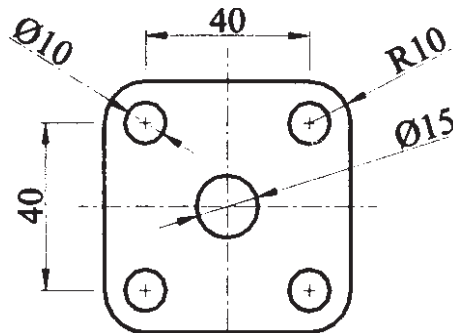

Fig. 2 : Material : 1.2 mm thick shear strength: 280 MPa
- a) Draw assembly drawing with locating element of a progressive die for the component shown in fig 2. [6]